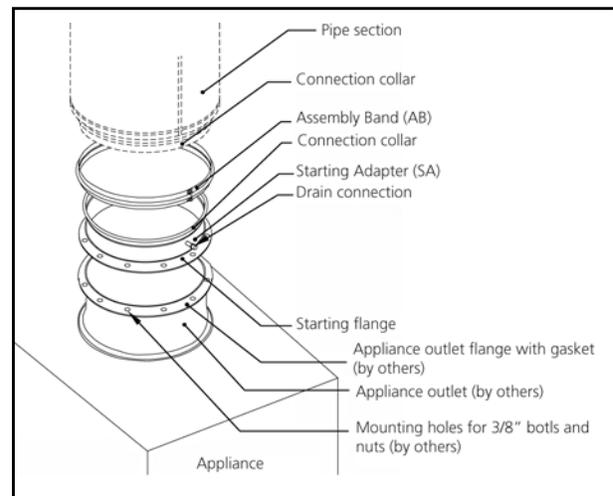

Figure E-9 - Typical installation for Starting Adapter (SA) and Starting Adapter-Drain (SAD)
5. See Fig.E-9 and E-10 for assembly.
2. See Fig.E-9 and E-10 for assembly.